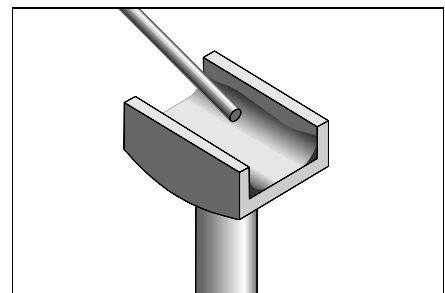

Figure 1: Conduction tip shown with solder added to enhance removal operation.
3. Add solder to the properly prepared tip. Fill the cavity until there is a fillet on the entire length of each side of the tip. (See Figure 1). Add enough solder to help transfer the heat quickly but not so much that it will fall out when the tip is turned upside down. The entire conducting surface of the tip should be tinned with solder to promote proper heat transfer to the leads of the component to be removed.